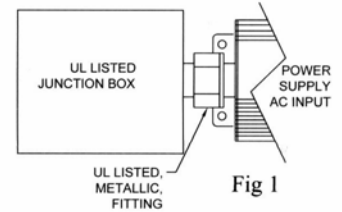

Fig 1
- Conduit fittings shall be used; UL listed threaded on to power supply bracket, liquid tight, metallic, provided for connection to the AC circuit (Fig 1)..
- The use of a UL listed junction box suitable for use in wet locations is required (Fig 1).